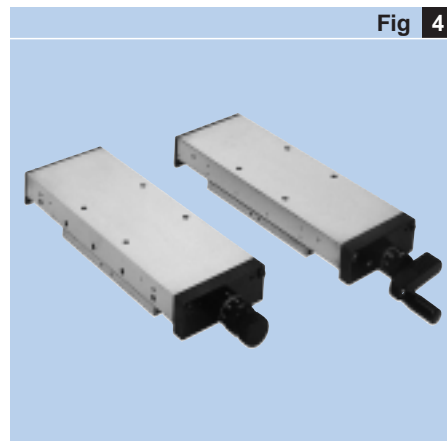

Fig 4
- Precision slides without drive (→ fig 4);